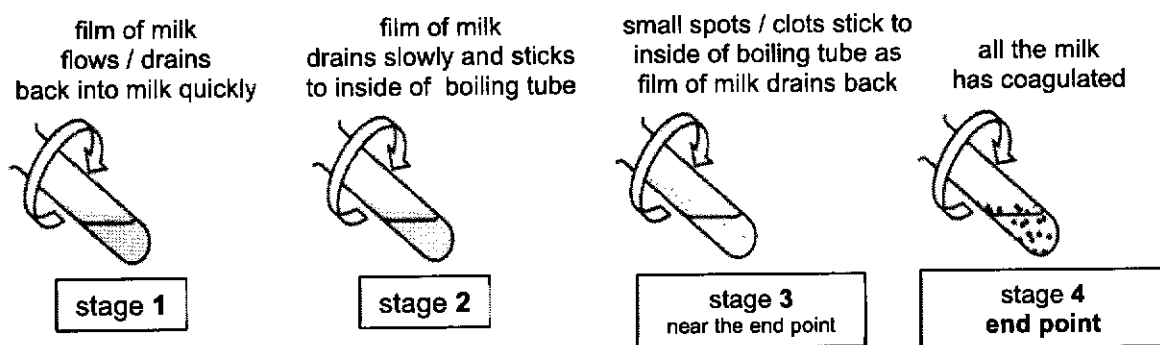

Fig. 1.1
When a mixture of milk, calcium chloride solution and **E** is gently rotated in a boiling tube the coagulation goes through the stages shown in Fig. 1.1.
Stage 4 is the end-point of the enzyme-catalysed coagulation as shown in Fig. 1.1.
- 13 Observe the film until the end-point is reached (stage 4 in Fig. 1.1). Ignore any small bubbles on the inside of the boiling tube. Stop timing.